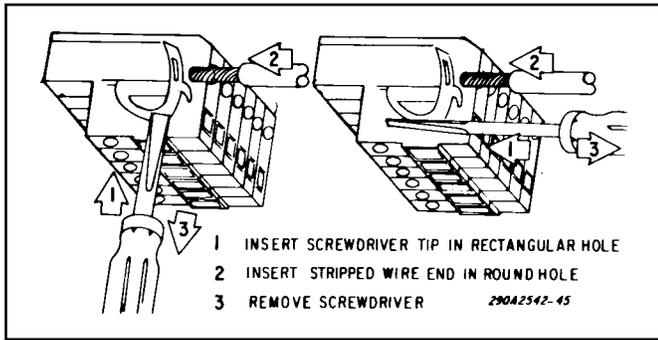

Figure 3.
To avoid damage and ensure proper operation, the red and black wires MUST be installed in the six-position connector as shown in figure 3.
- a. Strip 1/4" of insulation off of each wire. See figure 3. Use small blade screwdriver to depress spring in connector, insert proper wire and remove screwdriver to release spring.
- b. Connect the red and black 14-gauge wires to the connector as shown in figure 3.
d. Connect the 18-gauge red and green wires to the connector as shown in figure 3.